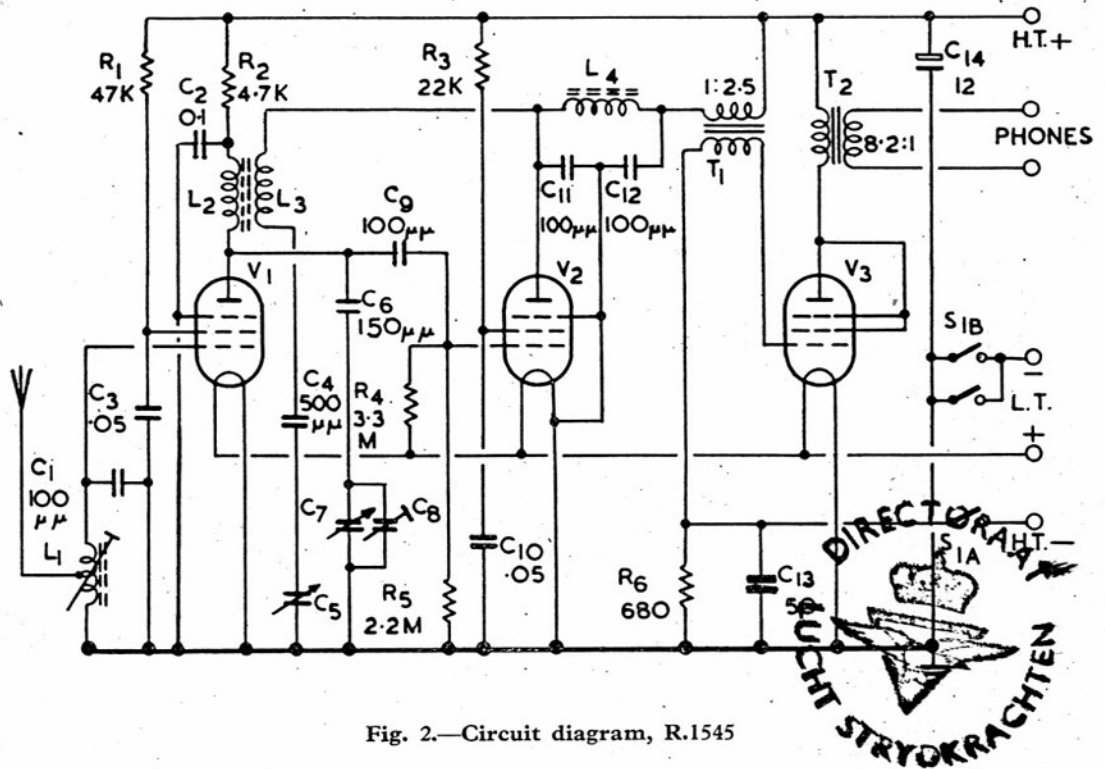

Fig. 2.—Circuit diagram, R.1545
4. A diagram of the receiver is given in fig. 2, from which it will be seen that a straightforward R.F. amplifier, detector, and A.F. amplifier circuit is adopted. The aerial terminal is directly connected to a tapping of the pre-tuned iron-dust core inductance L_1 , which is adjusted to 490 kc/s. This setting brings the "hump" of the response curve nearer to the middle of the band 470 to 530 kc/s than if the coil were tuned to 500 kc/s, and provides a more even response over the whole band. Instructions for making this adjustment are given in para. 44.
9. A three-pole on-off switch S_1 (annotated S_{1A} , S_{1B} in fig. 2), breaks H.T. negative and L.T. negative when in the OFF position. The two poles S_{1B} in the L.T. circuit are connected in parallel.